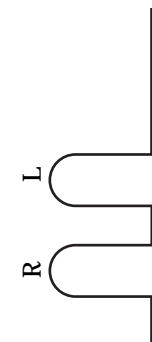

FIGURE 4-2 Detail of Rail Slots
Use the slot marked L for the left rail. Use the slot marked R for the right rail. (FIGURE 4-2)
2. **Before you install the rails into the cabinet, loosely start two stopper screws into each rail (see FIGURE 4-2).**
3. **Working from the back of the cabinet, loosely start two screws for the mounting rails into the cabinet (see FIGURE 4-2).**
The large hole is oriented near the rear for both rails. Use the slot marked L for the left rail. Use the slot marked R for the right rail. (FIGURE 4-2)